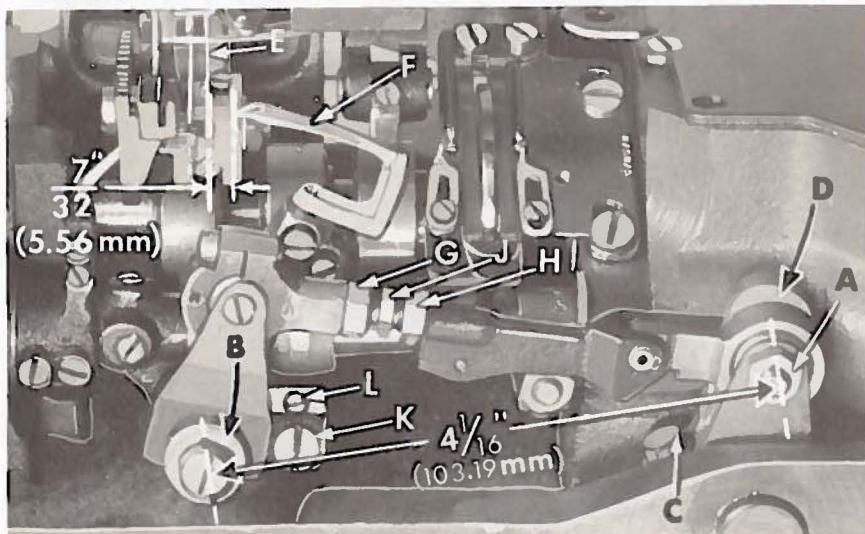

Fig. 6
With the looper at the extreme right end of its travel, check the location of the centerline of the right looper connecting rod bearing, using gauge No. 21227 CX. Remove nut (A, Fig. 6) and place hole in gauge over threaded stud. The left end of the gauge should locate against the right side of the looper rocker cone (B). If adjustment is necessary, loosen the clamp screw (C, Fig. 6) and reposition the looper drive lever (D) as required. Tighten clamp screw. If gauge is not available, setting can be checked with a scale. The distance between the centerline of the looper rocker cone and the centerline of the looper lever stud should be $4 \frac{1}{16}$ inches (103.19 mm) (Fig. 6), when looper is at the extreme right end of its travel. Refer to "NOTE" in above paragraph.
Insert a new set of needles, type and size as specified. Also insert front looper. The distance from the center of the right needle (E, Fig. 6) to the point of the front looper (F) should be $7/32$ inch (5.56 mm) when the looper is at its farthest position to the right. Looper gauge No. 21225- $7/32$ can be used advantageously to check this setting. If adjustment is required, loosen nut (G, Fig. 6) (it has a left hand thread) and nut (H) on connecting rod (J), turn the connecting rod forward or backward to obtain the $7/32$ inch (5.56 mm) dimension. Retighten both nuts, first nut (H) and then nut (G). Make sure the left ball joint is in vertical position and does not bind after adjustment.
If adjustment is necessary, loosen lock screw (K, Fig. 6) and turn stop screw (L) as required. Turning stop screw clockwise sets the loopers to the rear and turning it counterclockwise acts the reverse. Holding the loopers to the front while making this adjustment may prove helpful. Tighten lock screw securely after setting is obtained and recheck the adjustment. Insert back looper and obtain the same needle-looper relationship. A minute adjustment of looper-needle relationship can be accomplished by applying pressure on the loopers at front or back of the blade, while clamping loopers in looper rocker, so as to get the proper in-line-of-feed setting.